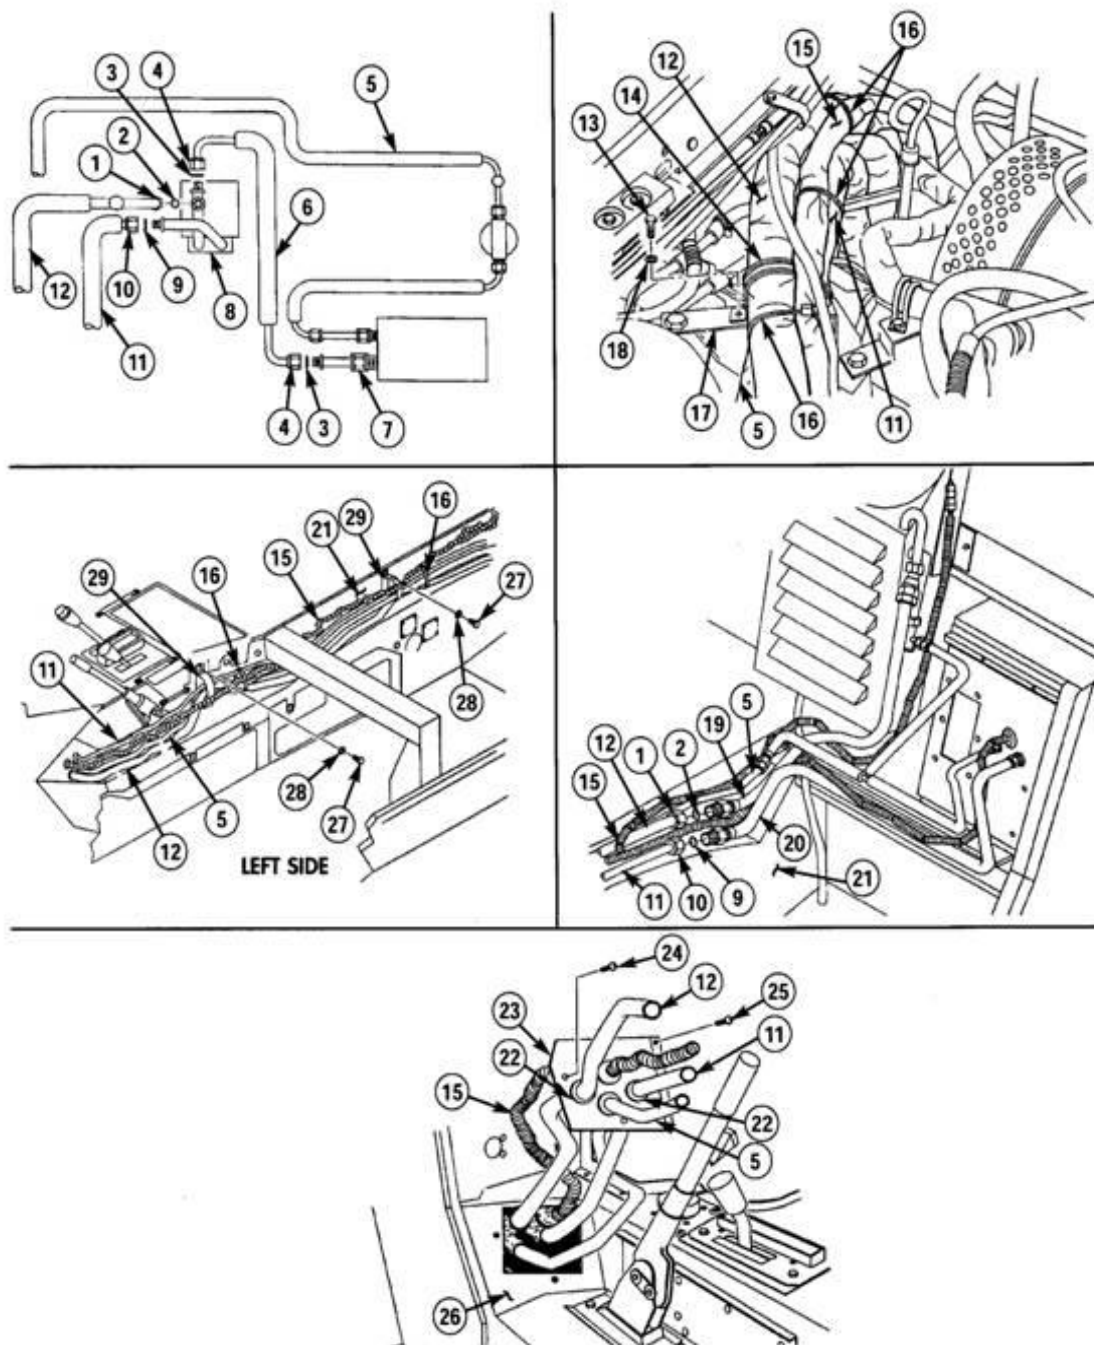

Figure 5
e. Removal of A/C Hoses from the Compressor Manifold to Rear Suction and Discharge Tubes. Refer to TM 9-2320-387-24-2, Chapter 25 Task Para 25-30, Page 25-78 and **Figure 5** contained in these instructions.
(1) Loosen two nuts (4) and remove low-pressure hose (6) and two O-rings (3) from compressor manifold (8) and evaporator tube (7). Discard O-rings (3).
(2) Loosen two nuts (1) and remove hose (12) and two O-rings from compressor manifold (8) and rear suction tube (19). Discard O-rings (2).
(3) Loosen two nuts (10) and remove hose assembly (11) and two O-rings (9) from compressor manifold (8) and rear discharge tube (20). Discard O-rings (9).
(4) Remove tie-down straps (16), as required, from hose (12), hose assemblies (11) and (15), and A/C wiring harness (15) in engine compartment.
(5) Remove cap screw (13), washer (18) and clamp (14) from clamping bracket (17).
(6) Remove tied-town straps (16), as required, from hose (12), hose assemblies (11) and (5), and A/C wiring harness (15) at left side tunnel (21).
(7) Remove two cap screws (27) and washers (28) securing clamps (29) to left side tunnel (21).
(8) Remove hose (12) and hose assembly (11) from two clamps (29) at left side tunnel (21).
(9) Remove two screws (24), screw (25), and Central Tire Inflation System (CTIS) cover (23) from vehicle body (26).
(10) Route hose (12) and hose assembly (11) forward through CTIS cover grommets (22) and up into engine compartment. Remove hose (12) and hose assembly (11) from vehicle.